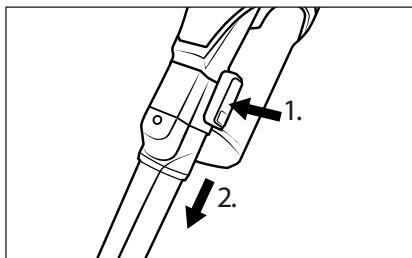

Fig. 15
- ◆ To remove the accessory, press and hold the release button on the accessory, then pull the accessory off the suction pipe **23** or the suction opening of the appliance (see Fig. 15).